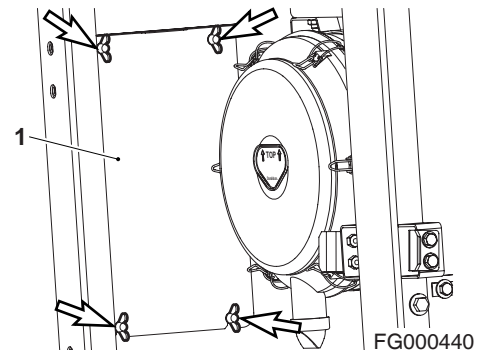

Figure 70
1. Open the front door at the left side of machine and loosen four marked bolts to remove the cover (1, Figure 70).